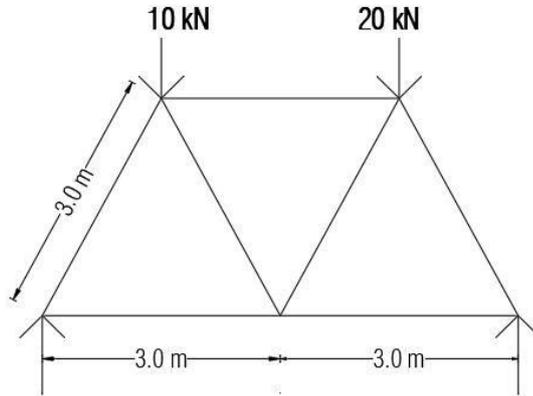

Figure 3
- (c) Analyze (Find forces and types of forces) the given truss as shown in figure 3 using method of joint. ૦૭
- (c) Find forces in all members of the given truss as shown in figure 3 using graphical method. 07